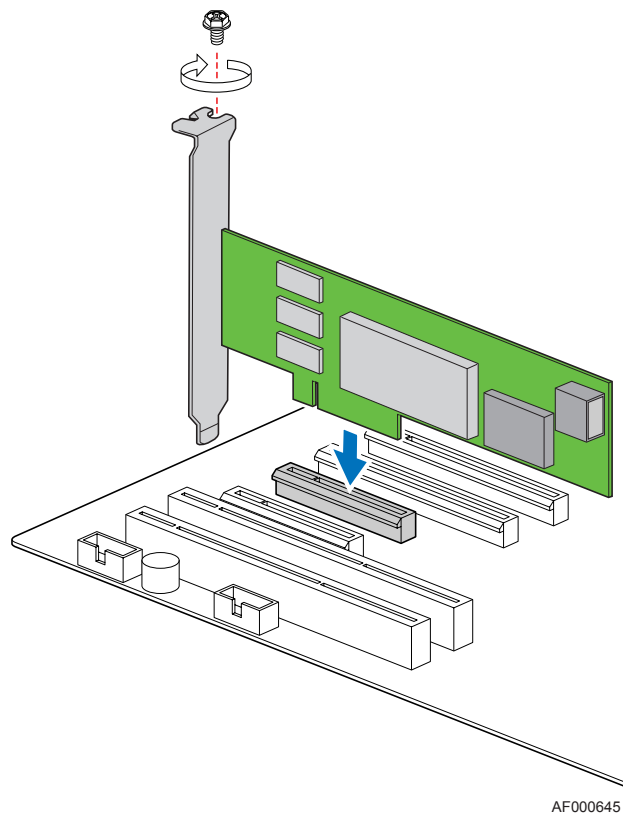

Figure 1. Inserting the Intel® RAID Controller SRCSAS144E into a PCI Express* Slot
4. Press down gently but firmly to ensure that the card is properly seated in the slot, as shown in Figure 1. Secure the bracket to the computer chassis.